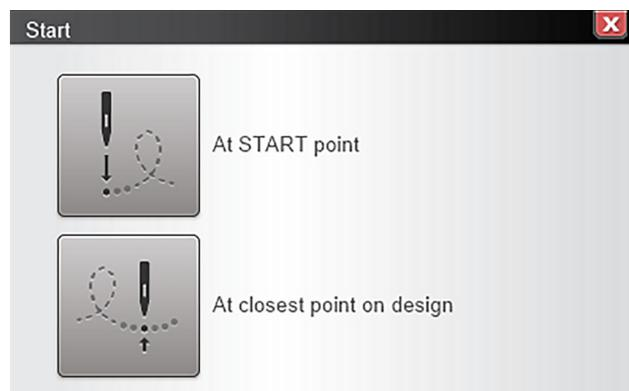

Fig. 61
2. Next, select At Start Point when prompted (Fig. 61). The Sewhead will move to the start point of Row 1.